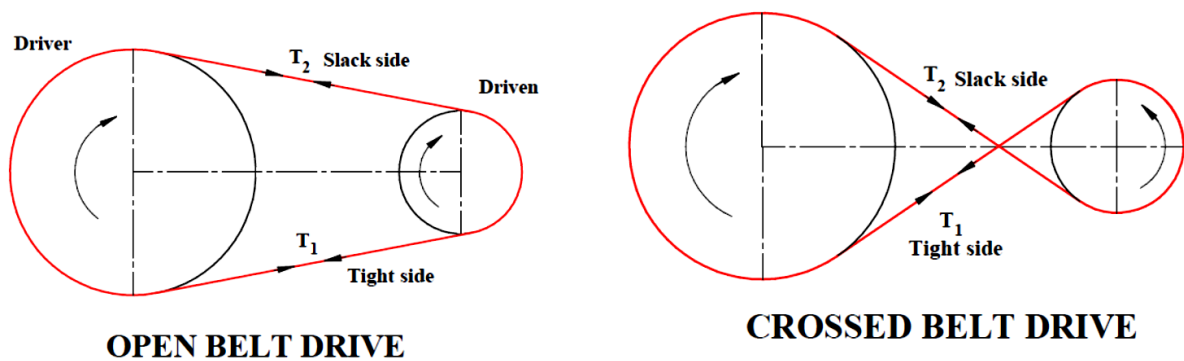

Fig. 4.3 Open and crossed belt drive
- Two types of belt drives, an open belt drive, and a crossed belt drive are shown in Fig. 4.3 Open and crossed belt drive.